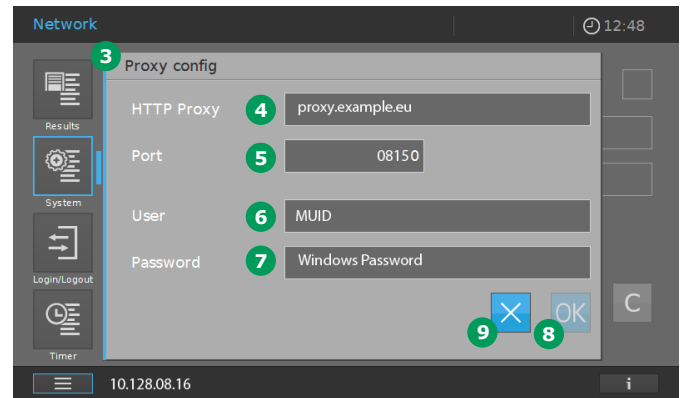

Figure 25 - Proxy configuration menu of the Prove
3. The Proxy config menu opens ③ (Figure 25). By pressing the entry field the keyboard appears to set the following parameters: HTTP Proxy ④, Port ⑤, User ⑥ and Password ⑦. By pressing the "OK" button ⑧ the parameters are stored in the instrument and the menu closes. By tapping the "X" button ⑨ all parameters are discarded and the menu closes.